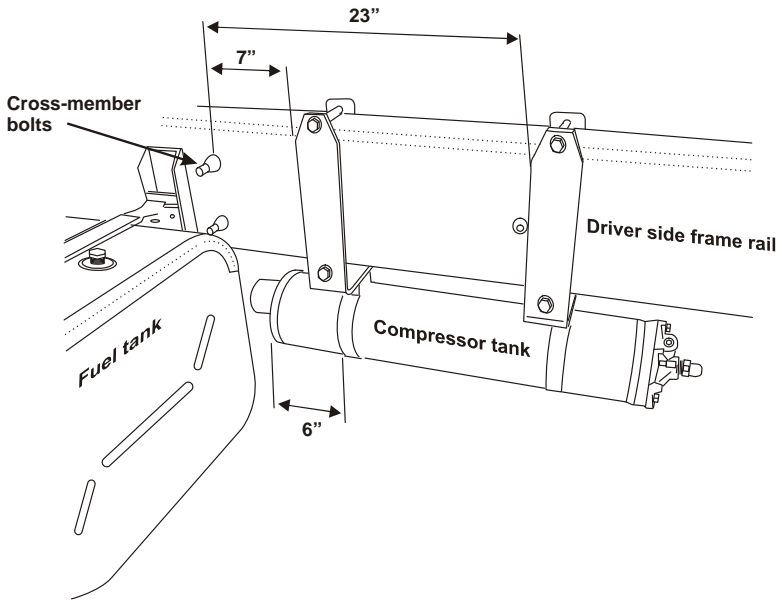

Figure 2.1
- Set the first bracket 7 inches and the second bracket approximately 23 inches back from the cross-member mounting bolts in the frame (Figure 2.1).
- Adjust the tank so that the front of the tank is 6 inches from the front C-clamp (Figure 2.1). Rotate the tank so that the “UP” arrow points upward.